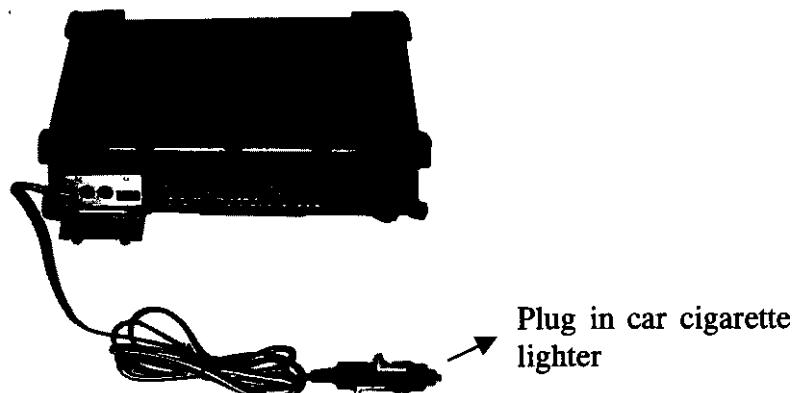

Figure 2-8 Plug Car Power Cable in Notebook
1. Start engine wait five to ten minutes and then plug car power cable into car cigarette. (See Figure 2-8).